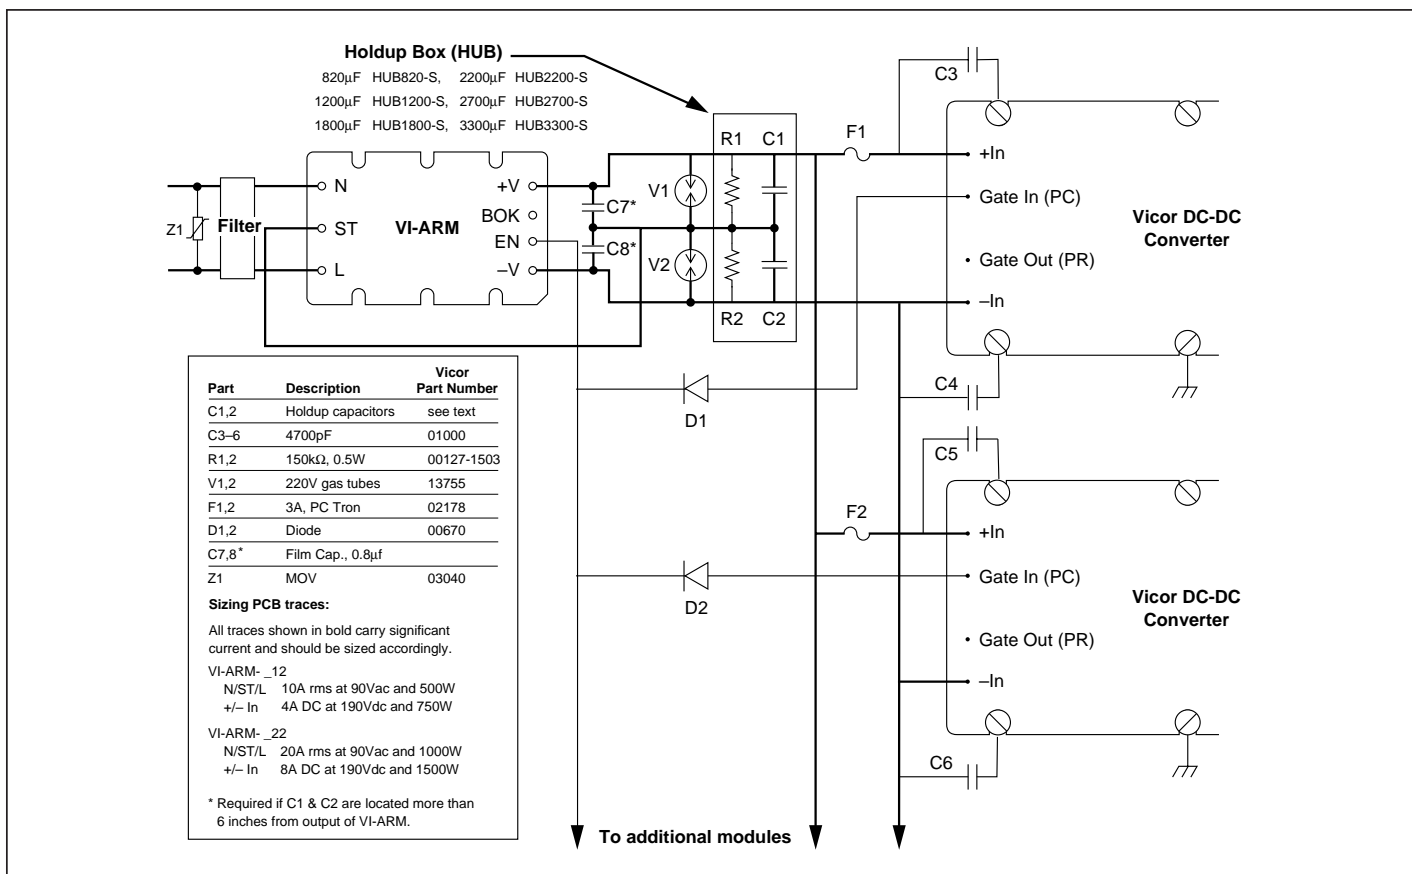

Figure 8—Converter connections
Strap (ST) Pin. In addition to input and output power pin connections, it is necessary to connect the Strap pin to the junction of the series holdup capacitors (C1, C2, Fig. 8) for proper (autoranging) operation. Gas tubes across the capacitors provide input transient protection. The bleeder resistors (R1, R2, Fig. 8) discharge the holdup capacitors when power is switched off.
It should be noted that the series combination ($C1$, $C2$, Fig. 8) requires each capacitor to be twice the calculated value, but the required voltage rating is reduced to 200V.